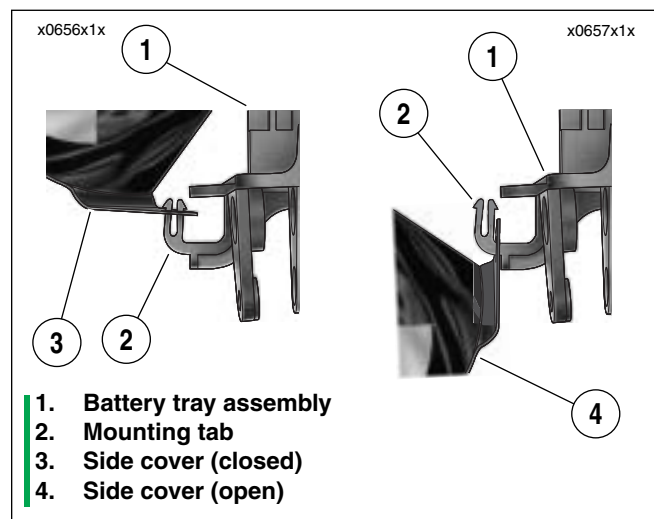
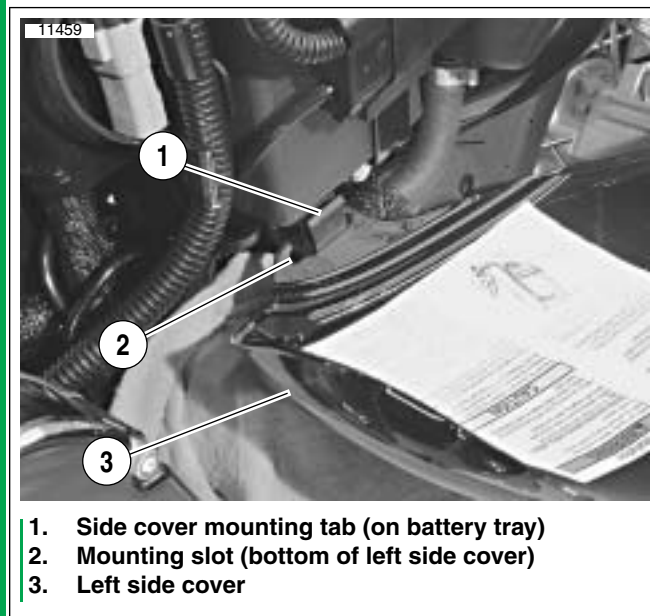

Figure 1-11. Left Side Cover
Figure 1-12. Left Side Cover in Open Position
3. While rotating top of cover out away from motorcycle, slide cover down slightly so mounting slot (4) slides down mounting tab (2) on battery tray. See Figure 1-11. See Figure 1-12. Side cover (3) will now rest on top of rear brake master cylinder reservoir and left passenger foot-peg (if equipped) with slot (2) hanging off bottom of mounting tab (1).
Do NOT lean on left side cover or place tools or parts on side cover while it is in “open” position shown in Figure 1-12. Doing so could damage side cover and/or break mounting tab on battery tray.
1. See Figure 1-12. Grasp top corners of side cover (3). While rotating top of cover up toward motorcycle, gently pull cover up so that mounting slot (2) slides up mounting tab (1).